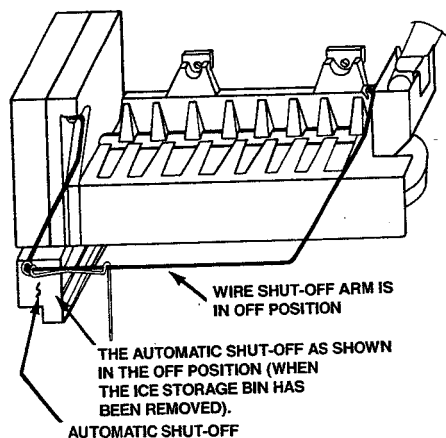

FIGURE 35
**The Automatic Shut-off** stops ice production by raising the control arm when the ice bin is removed. See Figure 35. (Some Models)